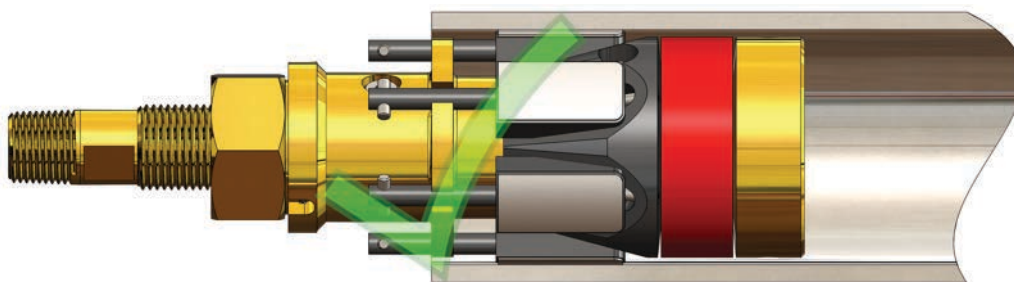
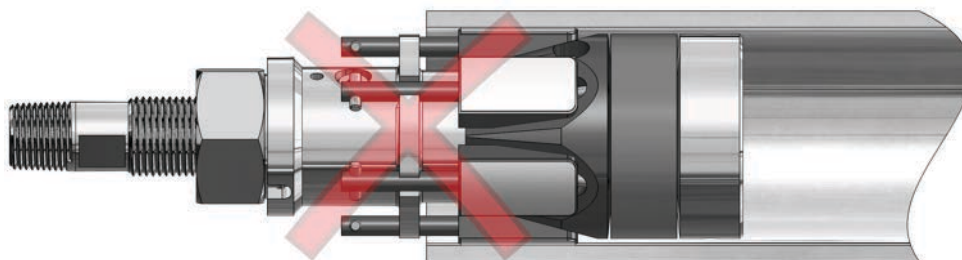

Figure 7: GripSafe ST ORB minimum insertion depth in a sectioned pipe
Figure 8: GripSafe ST ORB incorrect insertion depth in a sectioned pipe
6.4 Push the GripSafe ST ORB plug further into the pipe to the desired depth. The top of the **ORB Spring Plate's(3)** slotted section must not be protruding past the face of the fitting or pipe it is installed in. See Figure 7 for properly installed plug and Figure 8 for improperly installed plug. The top of the **ORB Spring Plate's(3)** slotted section can be inserted further into the fitting or pipe if necessary.